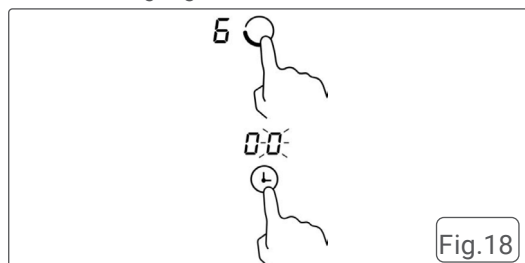

Fig.18
2. Touch the Timer control. The display will show "00" and the first digit "0" will start flashing. Fig.18